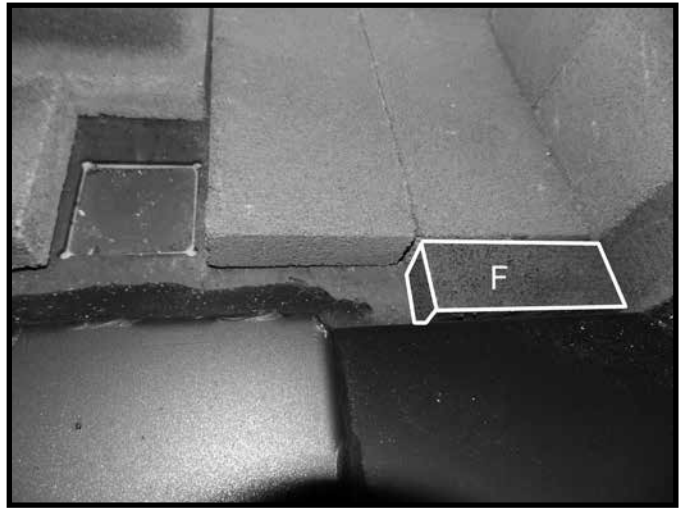
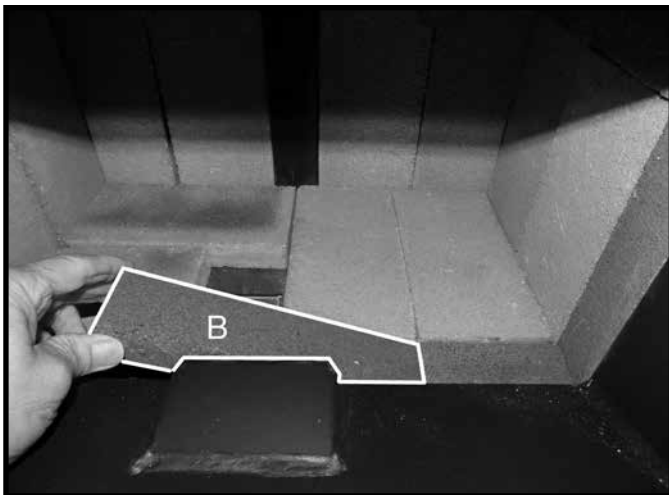

Figure 22: Short, narrow brick installed in front row.
Figure 23: Long narrow center brick in front row.
7. Place a short narrow "F" brick against the front right side of the floor (Figure 22) followed by a longer "B" brick in the center of the front row (Figure 23). Finish with the last "F" brick placed against the left side front row (Figure 24). Note: There will be a leftover gap behind the ash dump.